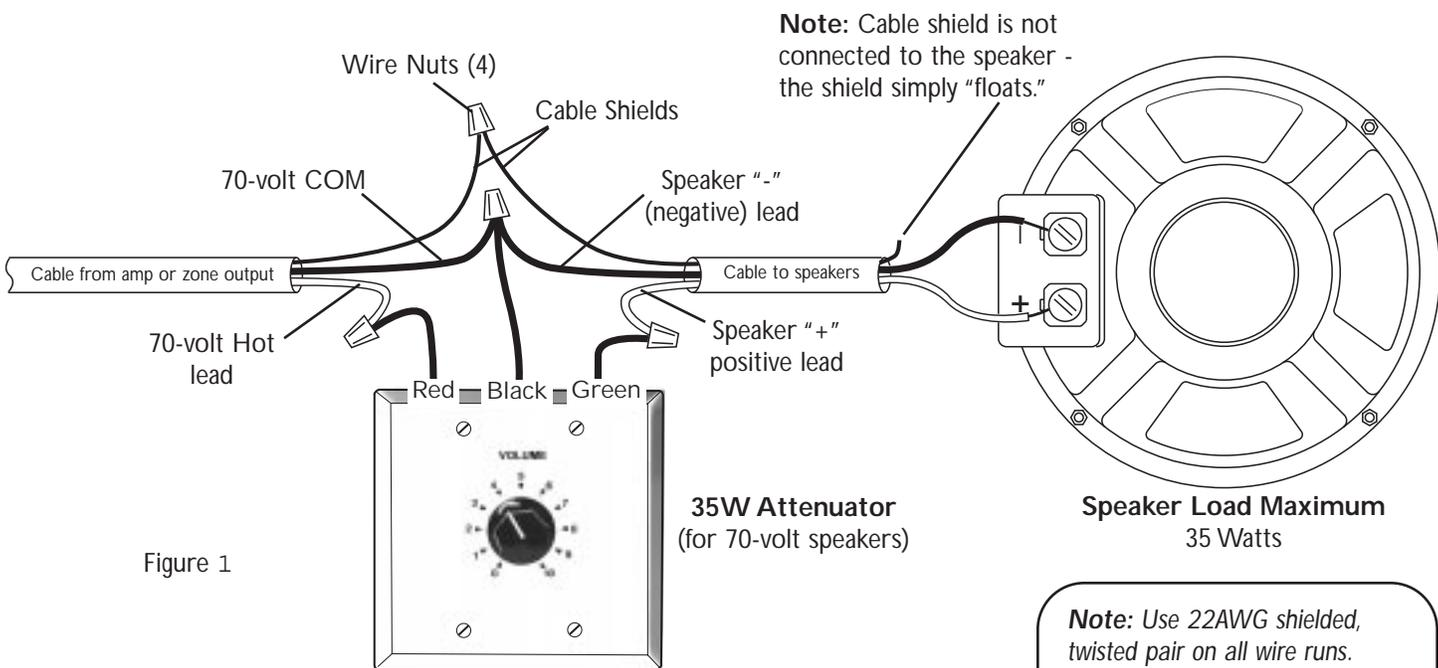

Figure 1
- 6) Make all the necessary electrical connections as shown in the "Attenuator Wiring" section on the front of this sheet (see Figure 1).